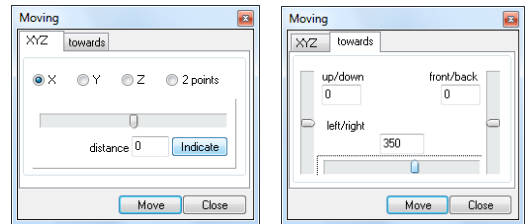

Fig. 112 – Moving dialog box – XYZ and towards tabs
- the **Moving** dialog box will appear (Fig. 112);